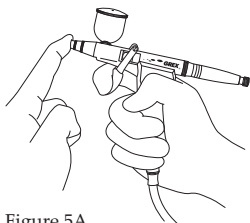

Figure 5A.
3. Using your finger or a towel, carefully block the front of the airbrush opening (needle cap). Refer to Figure 5A below.